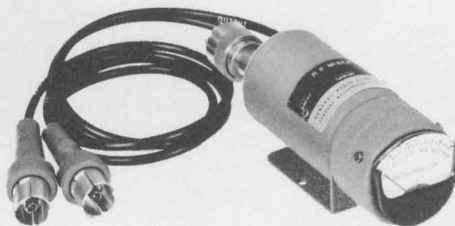

Figure 9. Type 1212-P3 RF Mixer.
2.4 USE WITH RF MIXER. Complete operating instructions are supplied with the mixer (Figure 9).